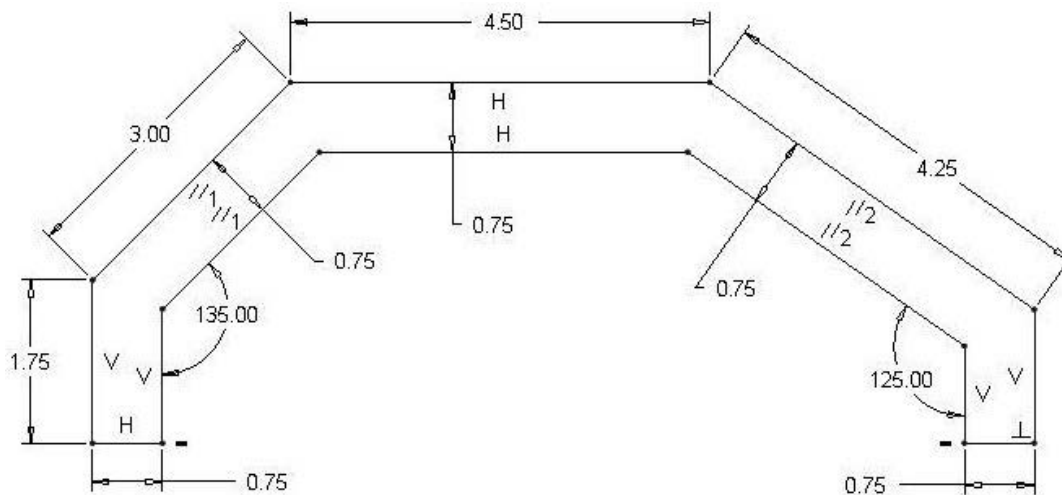

Figure 3-77 Problem 8
- 3.8 Draw the support frame (Figure 3-77). **Design Intent**—The thickness of the frame is $\frac{3}{4}$ of an inch. What is the volume of the enclosed area if the support frame was 10 inches deep?